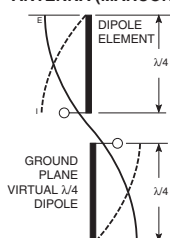

Figure 33: Dipole Antenna
4. In many antenna designs, particularly $\frac{1}{4}$ -wave whips, the ground plane acts as a counterpoise, forming, in essence, a $\frac{1}{2}$ -wave dipole (Figure 33). For this reason, adequate ground plane area is essential. The ground plane can be a metal case or ground-fill areas on a circuit board. Ideally, it should have a surface area less than or equal to the overall length of the $\frac{1}{4}$ -wave radiating element. This is often not practical due to size and configuration constraints. In these instances, a designer must make the best use of the area available to create as much ground